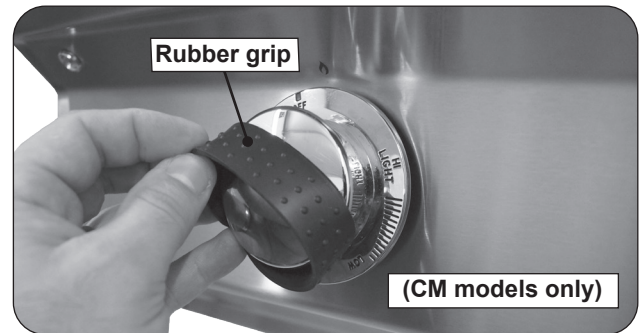

Fig. 39-1 Rubber grips removal (if applicable)
2. For CM models, remove the rubber grip from a control knob (see Fig. 39-1).